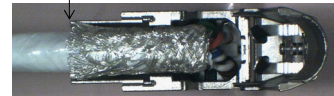

Figure 14
- 12) Verify trimmed fit, lift cable out of cavity enough to locate the ATUM 12/3 x 1.0" dual wall shrink tube over the braid ends. Fit the shrink tube over the braids, to align the start of the ATUM shrink with the external shoulder on the rear body as shown (Fig. 14). Shrink the tubing in location shown, use caution to avoid excessive heat affecting plastic connector components (Fig. 14).